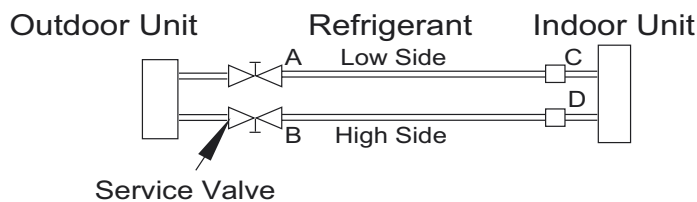

Fig. 13 —Service Valve
1. Completely tighten flare nuts A, B, C, D, E, F, (see Fig. 13). Connect the manifold gage charge hose to a charge port of the low side service valve (see Fig. 13).
9. Fully open service valves B and A (see Fig. 13)
The AUTO Fan function under the COOLING mode acts (see Fig. 13).